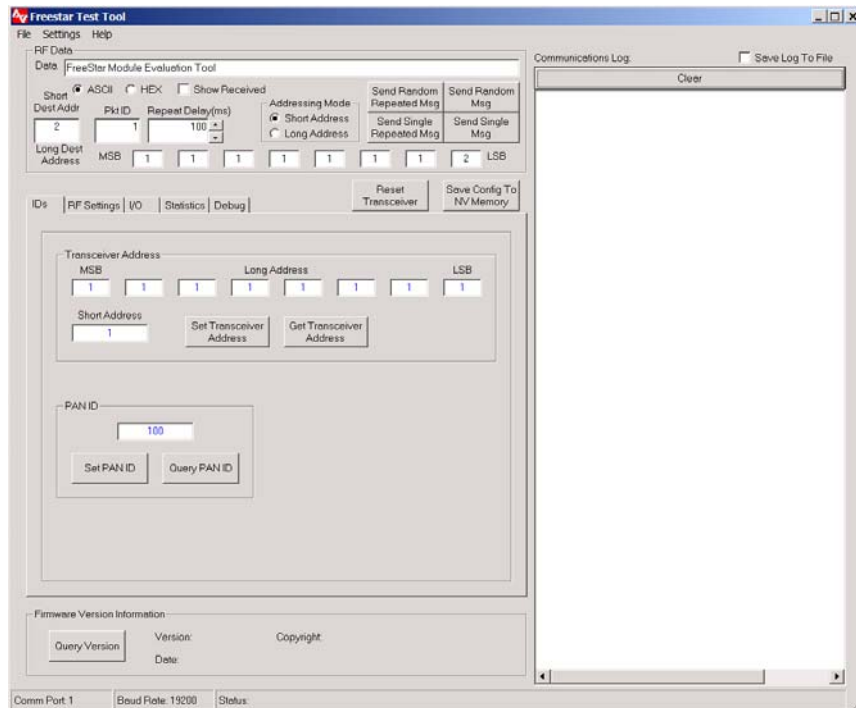

Figure 4-1. Evaluation Software - Main Screen
The Wi.Freestar evaluation software was designed to give the developer an ability to quickly test the features built into the Wi.Freestar module. The evaluation software is described in the following sections. A screen shot of the evaluation software is shown in Figure 4-1. Developers please refer to chapter 5 for information on building custom applications for use on the Wi.Freestar module.
4.2.1 ***Main Section of Test Tool (Upper left portion of the Test Tool as shown in Fig 4-1)***
4.2.2 Setting Device Identification (See Figure 4-1)